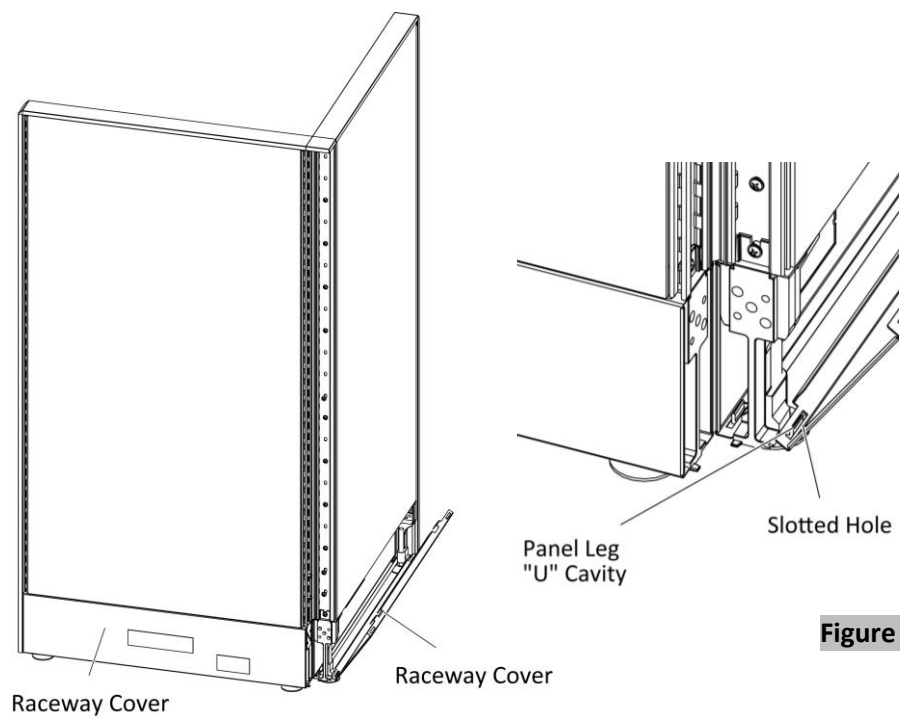

Figure 1
- 1. Insert the panel leg “U” cavity into the two slotted holes at the bottom of the raceway cover, (Figure 1).